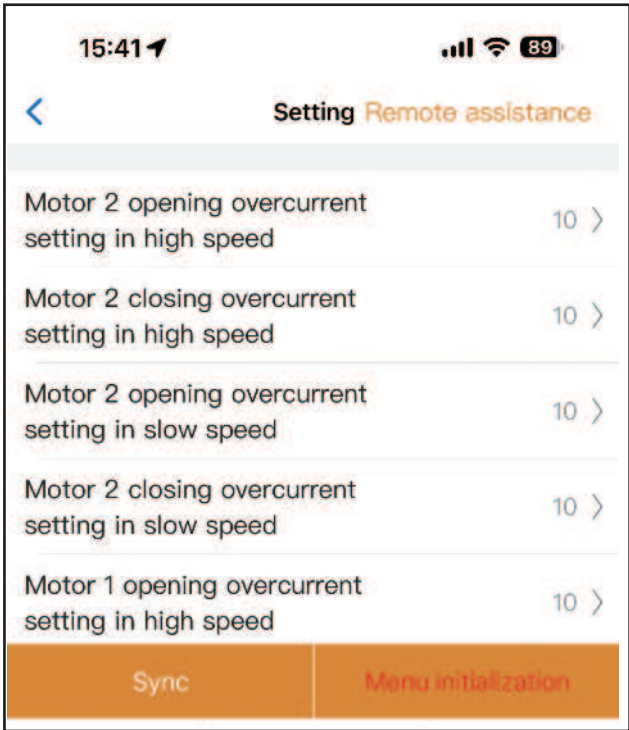

Fig 12
Step 2. Set the parameters on the APP.(Fig 12)